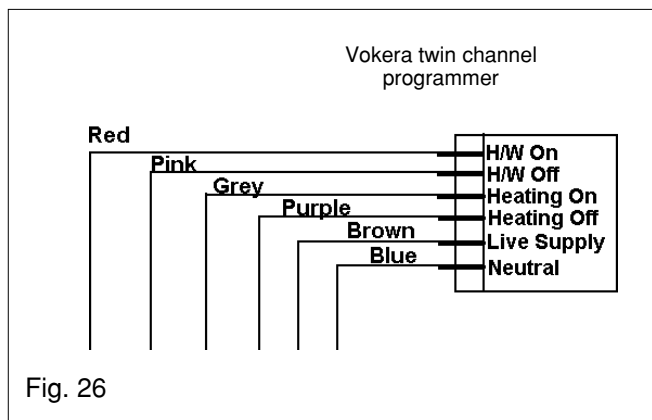

Fig. 26
- Take the wires supplied with the programmer and connect them as shown in fig. 26.